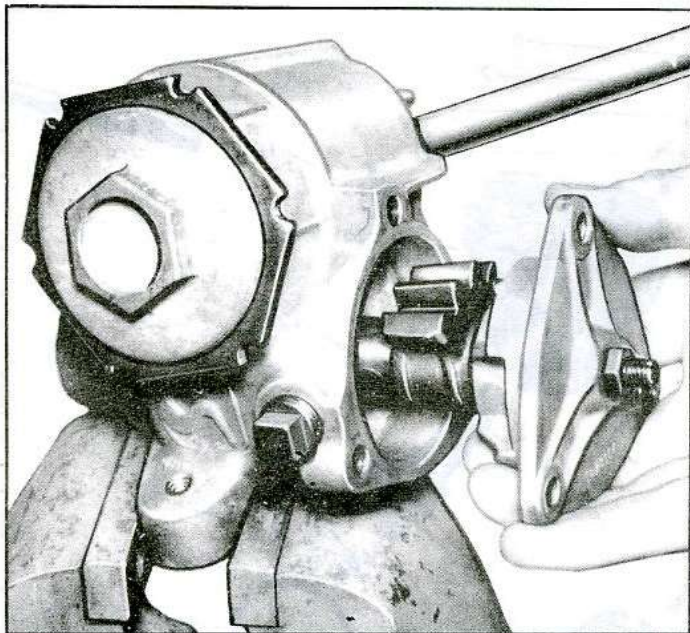

Fig. 9—Removing Pitman Shaft
4. Pull the side cover, with the pitman shaft, from the housing (fig. 9).